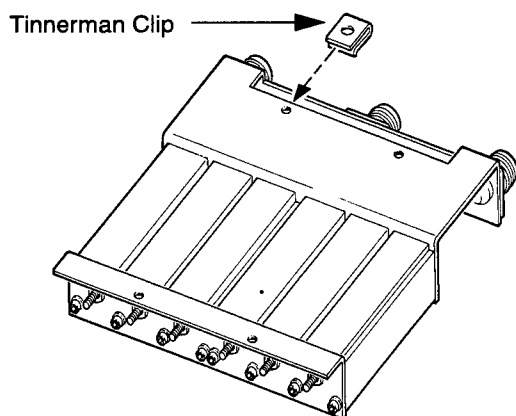

Figure 2-2. Duplexer, Bottom View
1. Examine the duplexer that was ordered for the RKR1225 repeater model being assembled. If four (4) of the mounting holes contain Pemnuts (threaded inserts), proceed to Step 3. If no Pemnuts are present, locate the four (4) Tinnerman clips in kit HKN9035 and continue with Step 2.
2. Using a pair of needle nose pliers, place Tinnerman clips over four of the mounting holes of the duplexer (refer to Figure 2-2).